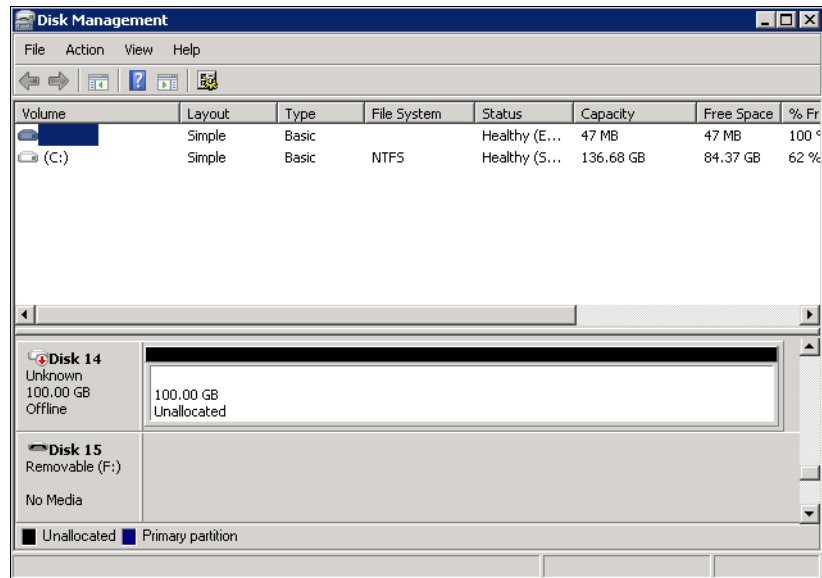

Figure 5-27 Windows Disk Management
- Open the Windows Disk Management window (Figure 5-27 on page 146) by clicking **Start** → **Run**, and then type **diskmgmt.msc**, and click **OK**.